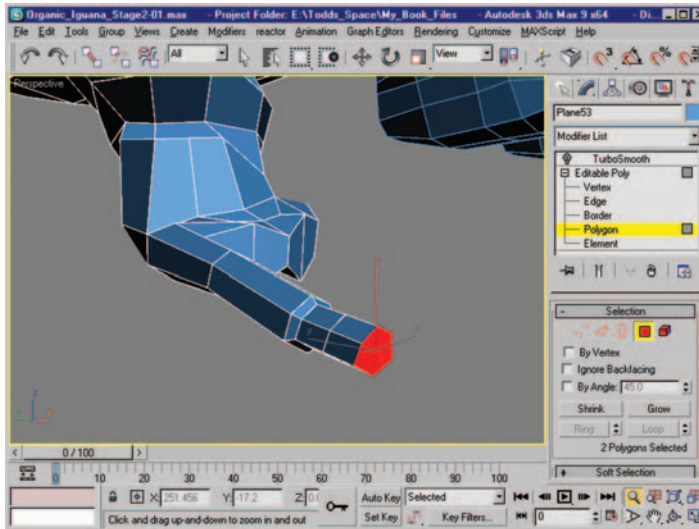

Figure 9.64 Polygons after extruding twice.
26. With the same polygons selected, use Extrude twice to create the geometry seen in Figure 9.64.